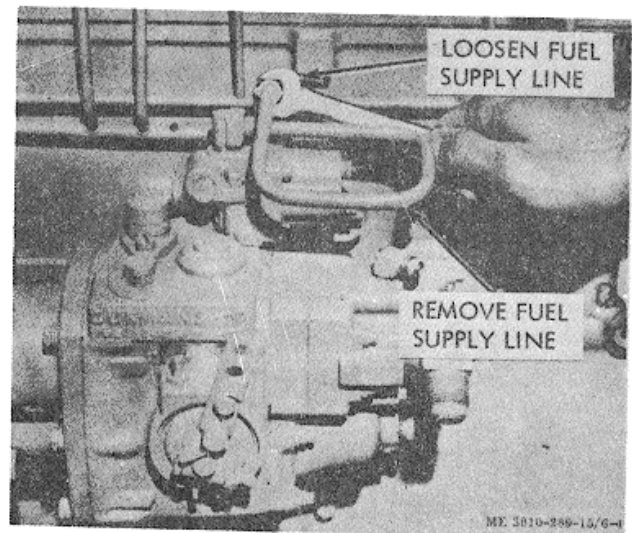

Figure 3-5. Fuel supply line disconnection.
(2) Remove fuel line from solenoid shutdown valve to fuel supply manifold (fig. 3-5).